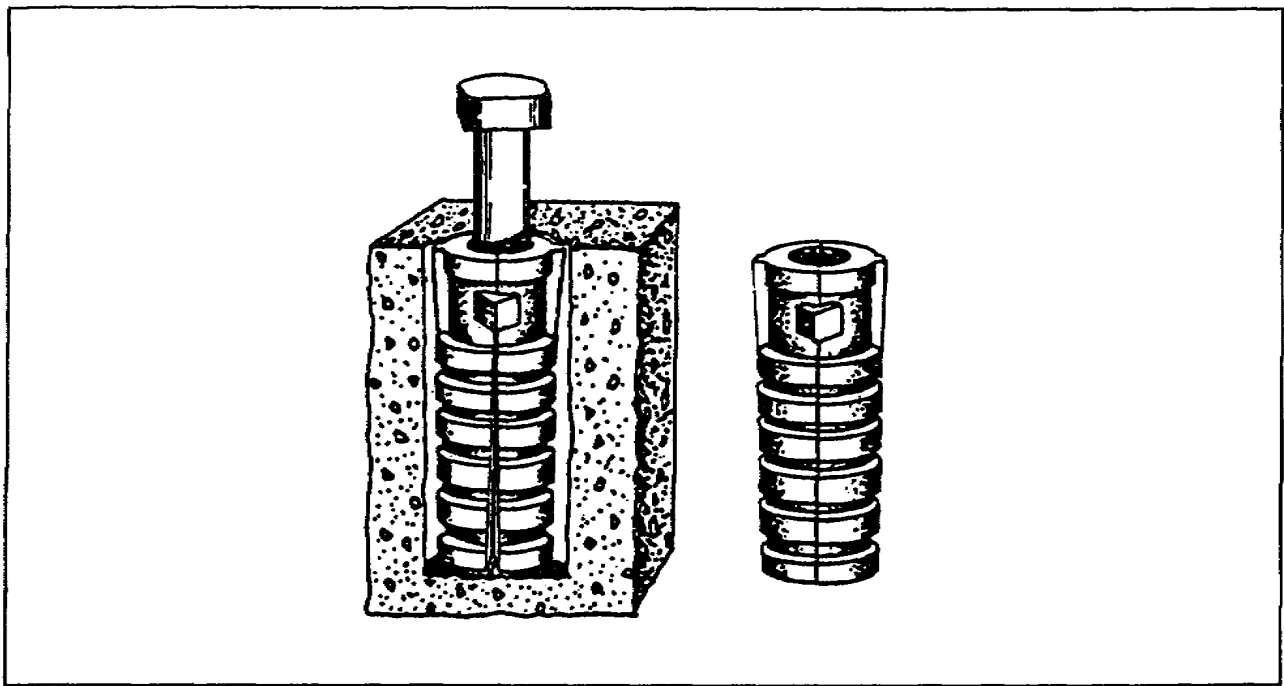

Figure 1-44. Expansion anchor bolt
b. Expansion Anchor Bolts. Lead screws, plastic anchors, and lag expansion shields all work with the same basic idea. Drill a proper size hole and insert the expansion shield into the hole. The insertion of the screw or lag bolt expands the fastener to provide a secure hold. Figure 1-44 shows how expansion anchors work.